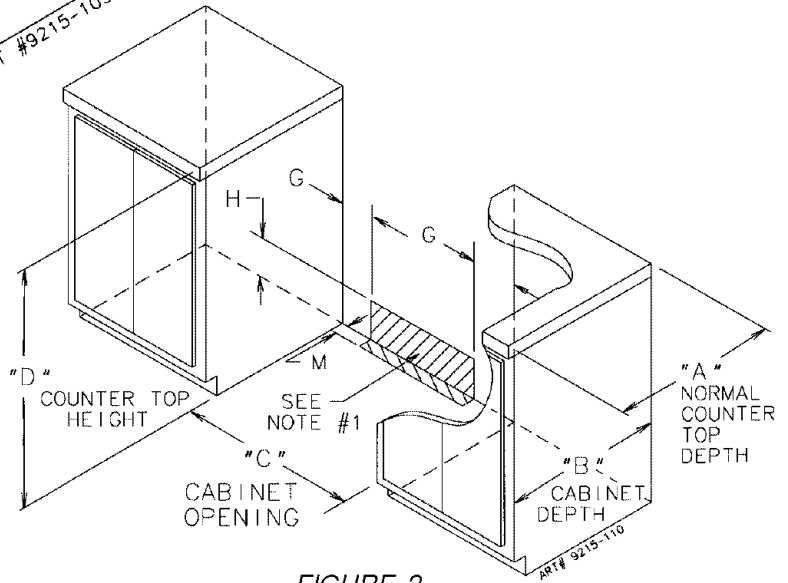

FIGURE 2
This model was shipped direct from the factory with service cord (pigtail) attached. There are no range connections necessary. Just plug into the range outlet. See figure 2 on page 3 for outlet location.
- Determine where you will be locating the electrical outlet. It must be in the floor or on the wall within the area shown in figure 2 or 3.